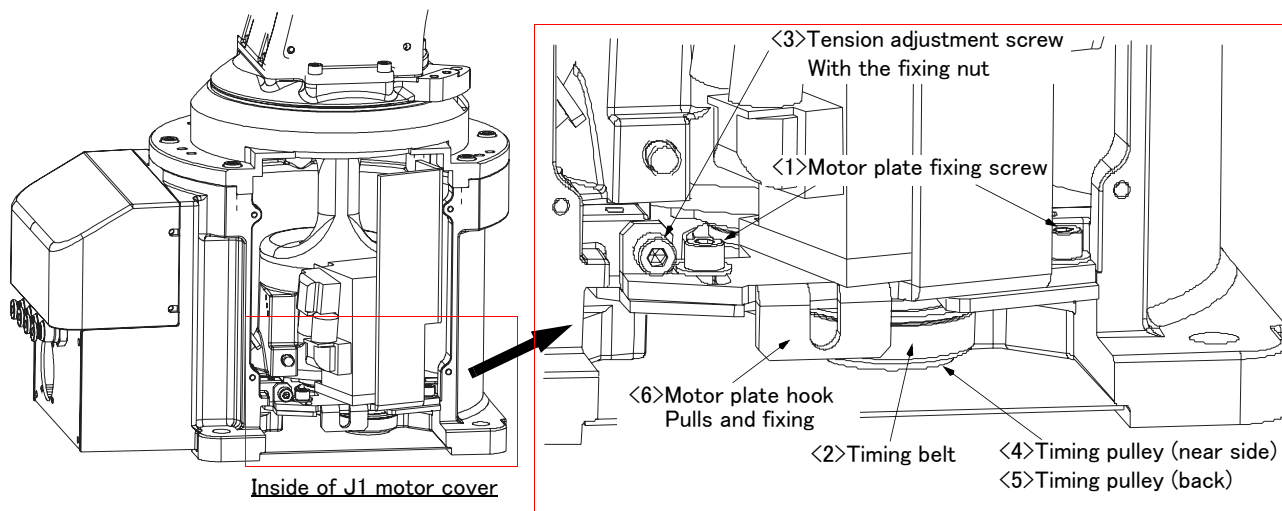

Fig.5-4 : Inspection, maintenance and replacement of J1 axis timing belt
The reference figure at inspection, adjustment, and replacement of the timing belt is shown in Fig. 5-4
- 5) The image figure inside the bottom plate of the robot arm is shown in Fig. 5-4.
- 7) Make marks on the timing belt <2> and timing pulleys <4> and <5> with a felt-tip pen as shown in Fig. 5-4 so that the engagement of the timing belt <2> and timing pulleys <4> and <5> does not deviate.